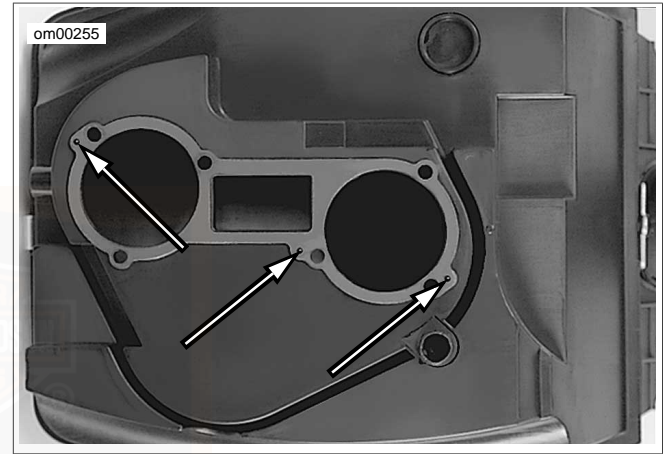

Figure 59. Air Cleaner Gasket and Alignment Pins
9. See Figure 59. Inspect the gasket on the bottom of the airbox tray. The gasket is located by the three alignment pins on the mating surface.